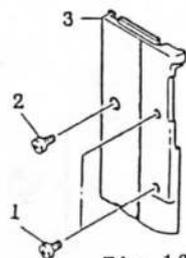

Fig.10
- (3) Take off three SCREWS (No.1,2) and remove the COVER LEFT (No.3), (Fig.10)